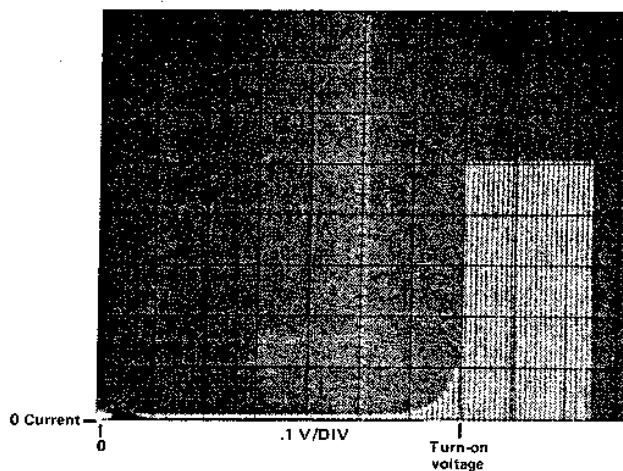

Fig. 25. Display of 2N3669 SCR turn-on voltage.
**Turn-On Voltage** Fig. 25 is a display of the turn-on characteristics of a 2N3669 SCR with the turn-on voltage indicated. Set up the test for the device as follows: Set HORIZ VOLTS/DIV to  $.1 \text{ BASE VOLTS}$ ; STEP/OFFSET AMPL to  $.1 \text{ V/Step}$ ; STEP X.1 to "out" position; NUMBER OF STEPS clockwise; MAX PEAK VOLTS to 6.5; and SERIES RESISTORS switch to minimum resistance.